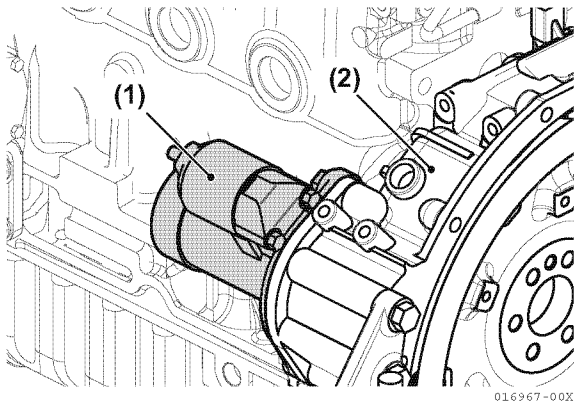

Figure 5-188
55. Install the starting motor in the flywheel housing (**Figure 5-188**).